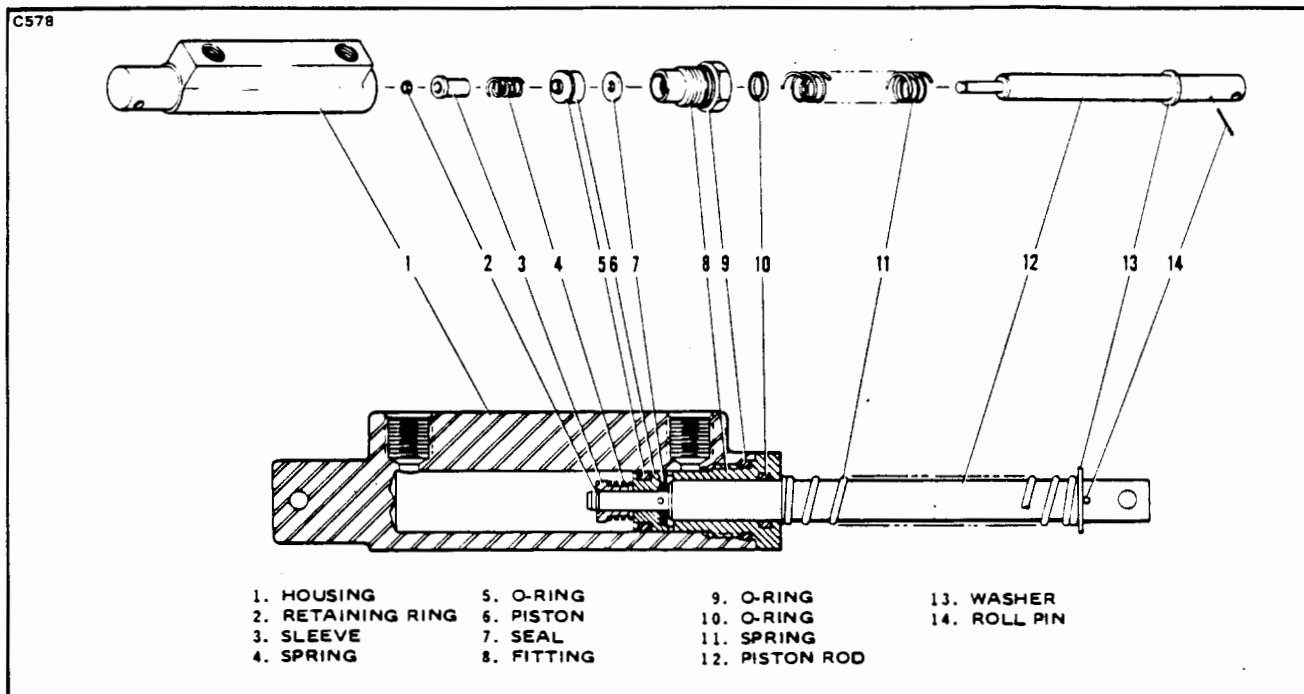

Figure 32-19. Brake Cylinder (17000)
REMOVAL OF BRAKE CYLINDER. (Refer to Figure 32-19.)
1. Gar-Kenyon cylinder number 17000. (Refer to Figure 32-19.)
ASSEMBLY OF BRAKE CYLINDER. (Refer to Figures 32-19 and 32-20.)